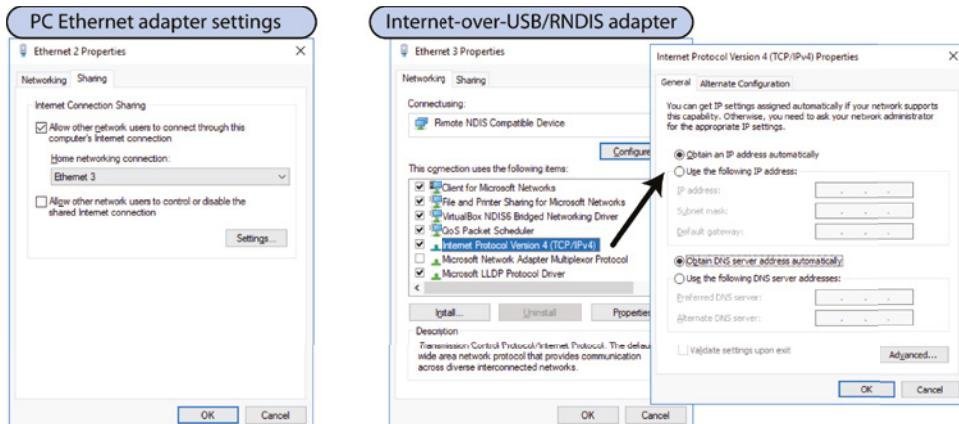

Figure 2-4: Configuring the network connection sharing properties under Windows
2. In the dialog that appears, as shown on the left side of Figure 2-4, click the Sharing tab at the top and enable the option "Allow other network users...."
3. In the drop-down list, choose your private LAN (e.g., referring to Figure 2-4, this is "Ethernet 3" in my case). Click OK.
5. Double-click Internet Protocol Version 4. In this dialog, select “Obtain an IP address automatically” and enable “Obtain DNS server address automatically” (see Figure 2-4 on the right side).